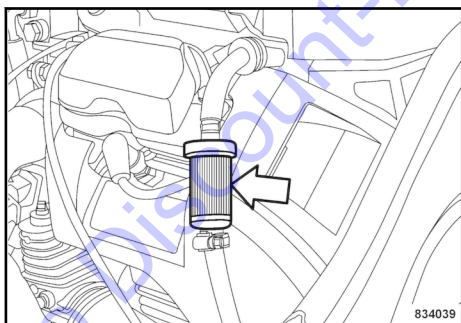

Fig. 173
1. Loosen the hose clamps ↪ Fig. 173.